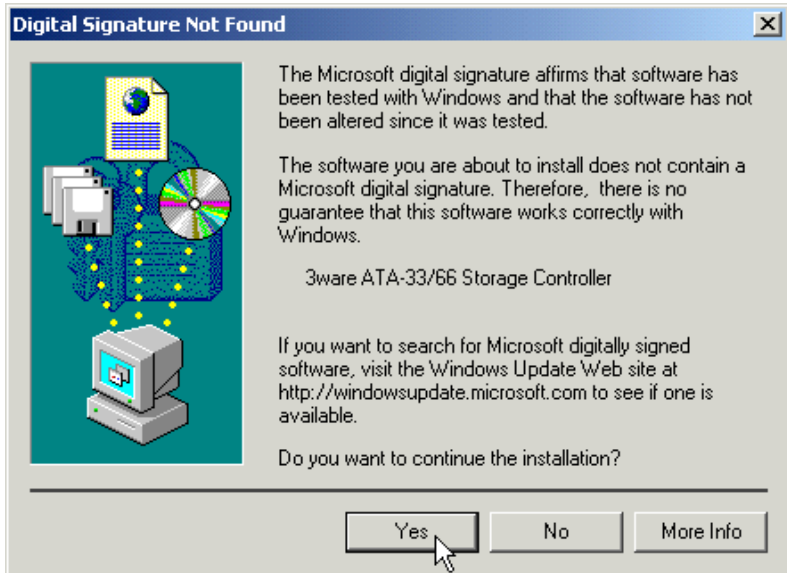

Figure 44. Digital Signature Not Found
- Depending on the driver diskette that was packaged with your storage controller, the **Digital Signature Not Found** screen may appear. (See Figure 44.) If this screen appears, click on **Yes** to continue and follow the instructions to complete the driver installation.